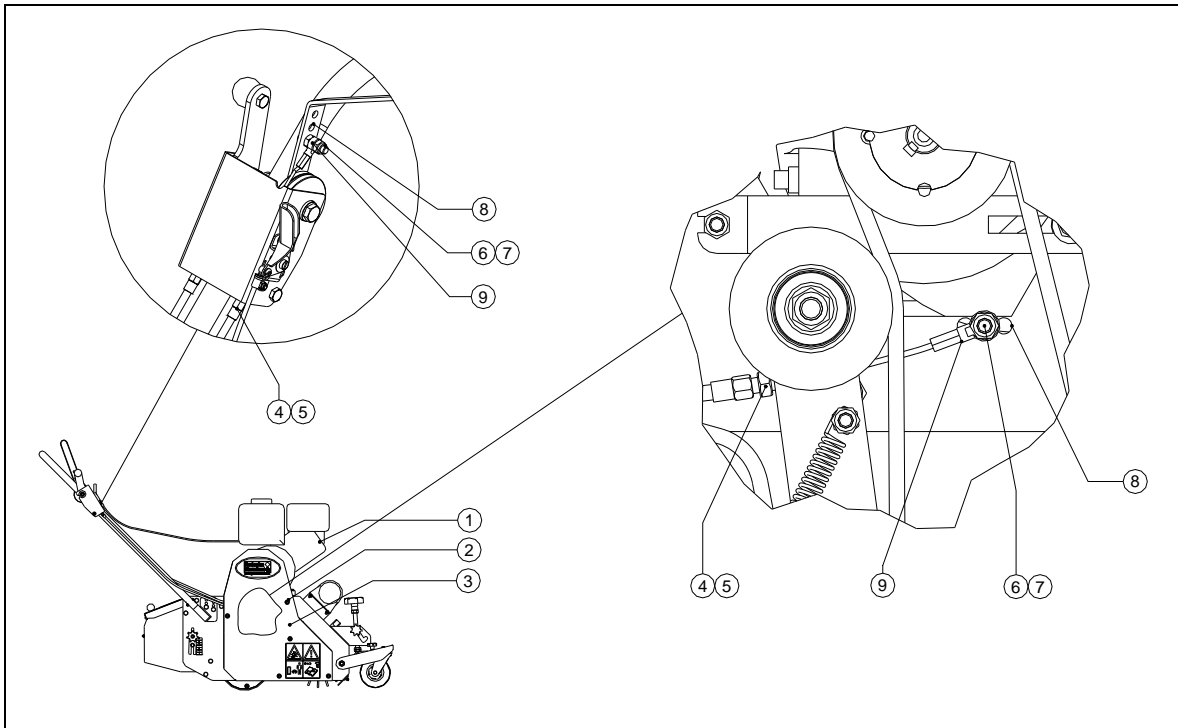

Figure 18
2. Variable tension pulley for the drive of the entire machine (1) (see Figure 18)
Variable tension pulley for the drive of the entire machine (see Figure 18)